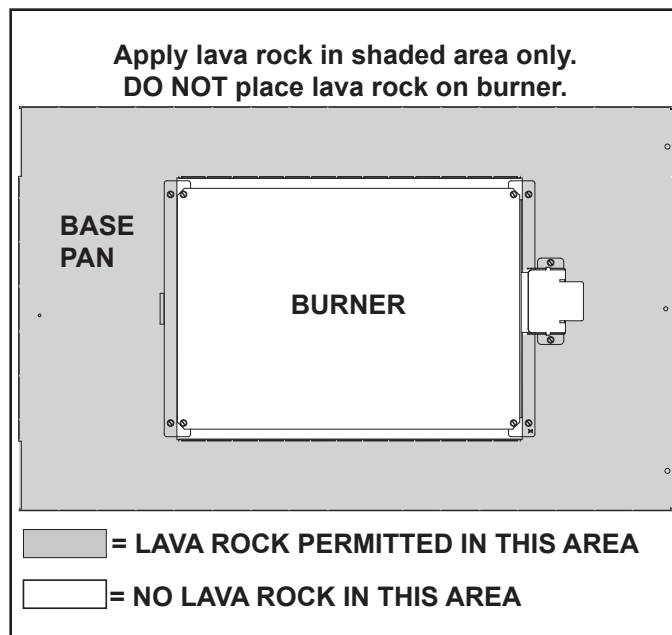

Figure 11.13 Placement of Lava Rock
Place glowing embers as shown in Figure 11.13.
- Place Lava Rock on areas of base pan away from the burner as shown in Figure 11.13. Do not place lava rock on burner. Use this material to give the appliance a realistic ash bed.